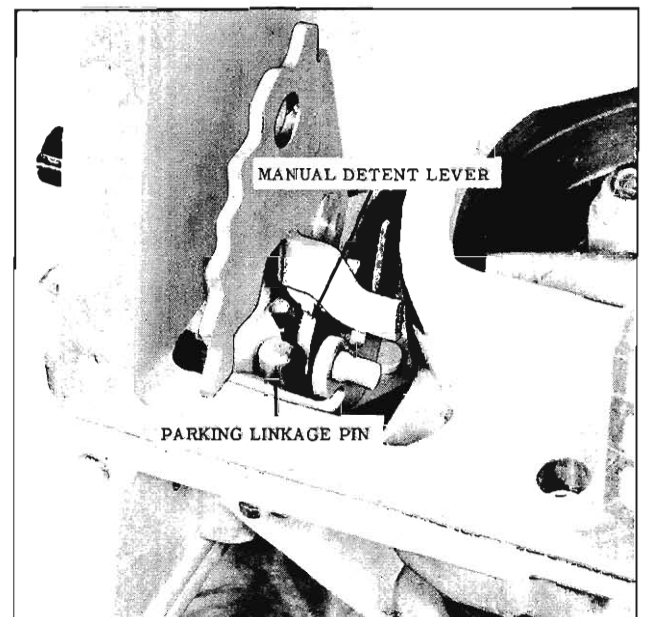

Fig. 6-105 Aligning Parking Linkage
8. Carefully align parking linkage pin and manual detent lever as rear bearing retainer is aligned with dowel pin and case. (Fig. 6-105)